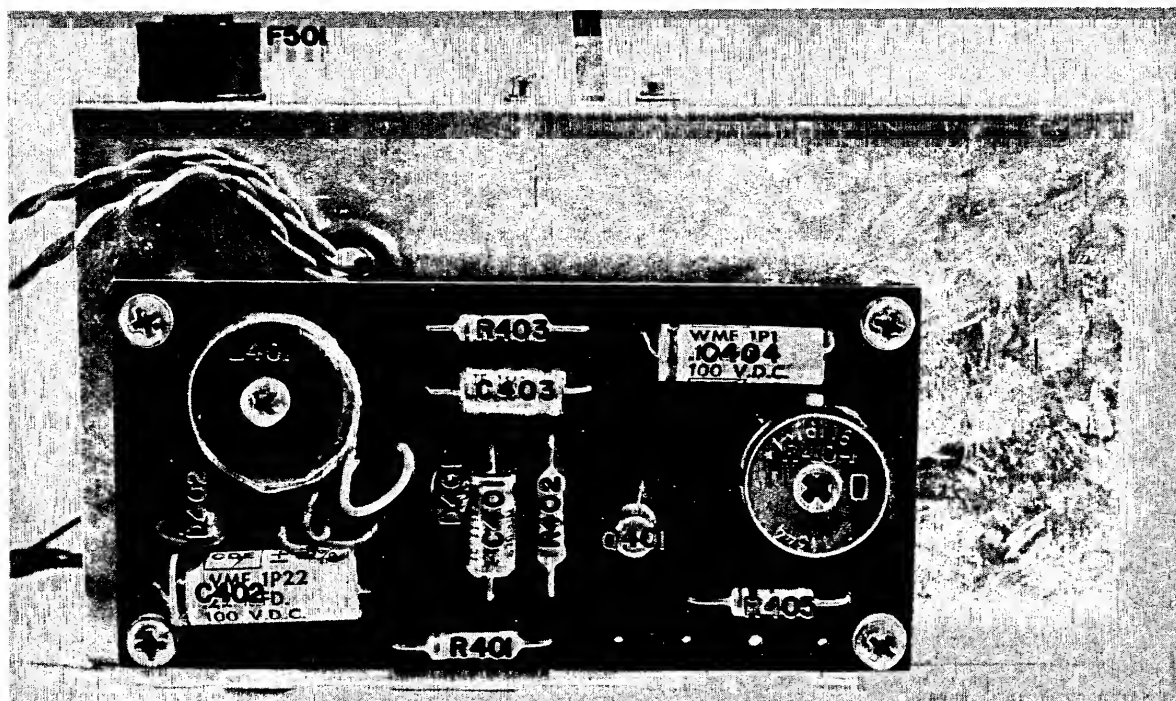

FIGURE 4-3 TEST TONE OSCILLATOR
Step 4. Refer to the troubleshooting suggestions in table 4-3, and to figure 4-3 for component locations and test point.